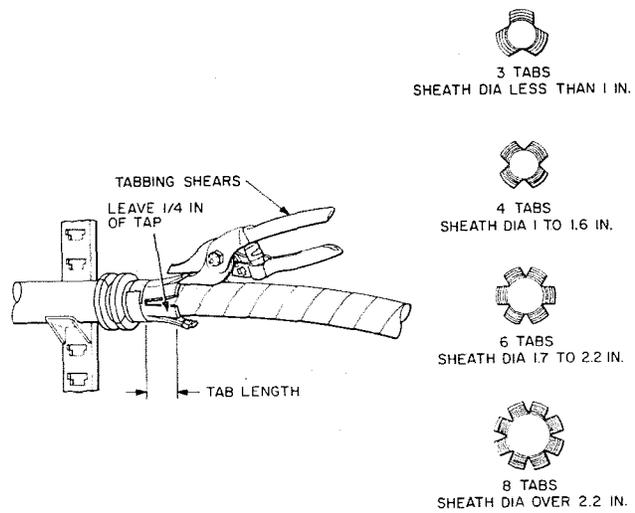

Fig. 8—Cutting Tabs
3.08 Make equally spaced longitudinal cuts through the **outer jacket** to the edge of the remaining tape marker as shown in Fig. 8. The cuts should be made through the polyethylene and metal layers. Avoid injuring the inner polyethylene jacket. Tab lengths are purposely made one inch longer to facilitate binding the tabs over the inner sheath clamp. Tabs will ultimately be trimmed back as outlined in paragraph 3.13.
3.09 Cut out and remove a section of one tab to accommodate the inner clamp as illustrated in Fig. 8. Leave a 1/4-inch width to assist in limiting the inward travel of the clamp. **The ears of the inner clamp must fall in the center of one of the cases after assembly** to ensure good electrical contact with the splice case.